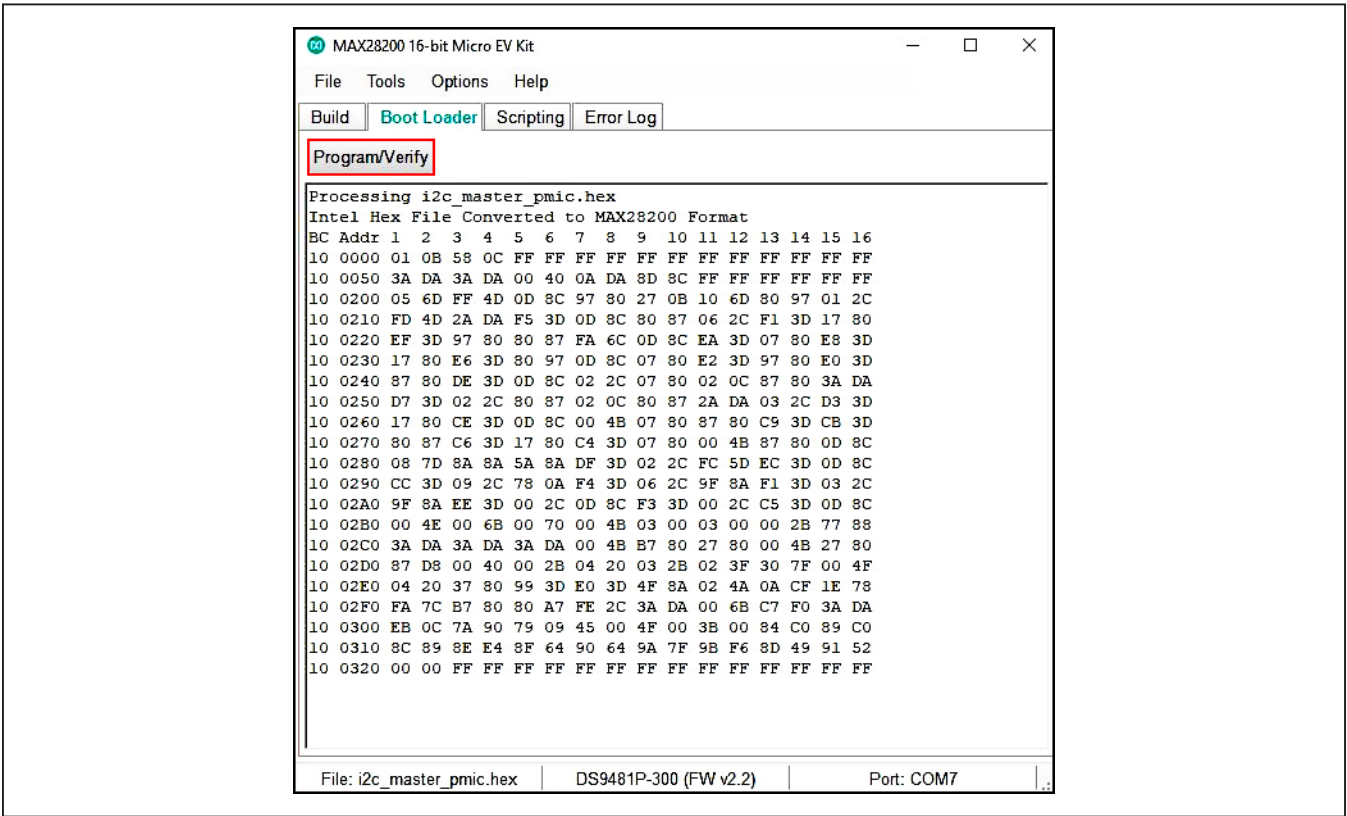

Figure 9. Programming Device
- 5) Click the **Program/Verify** button to program the device (Figure 9).